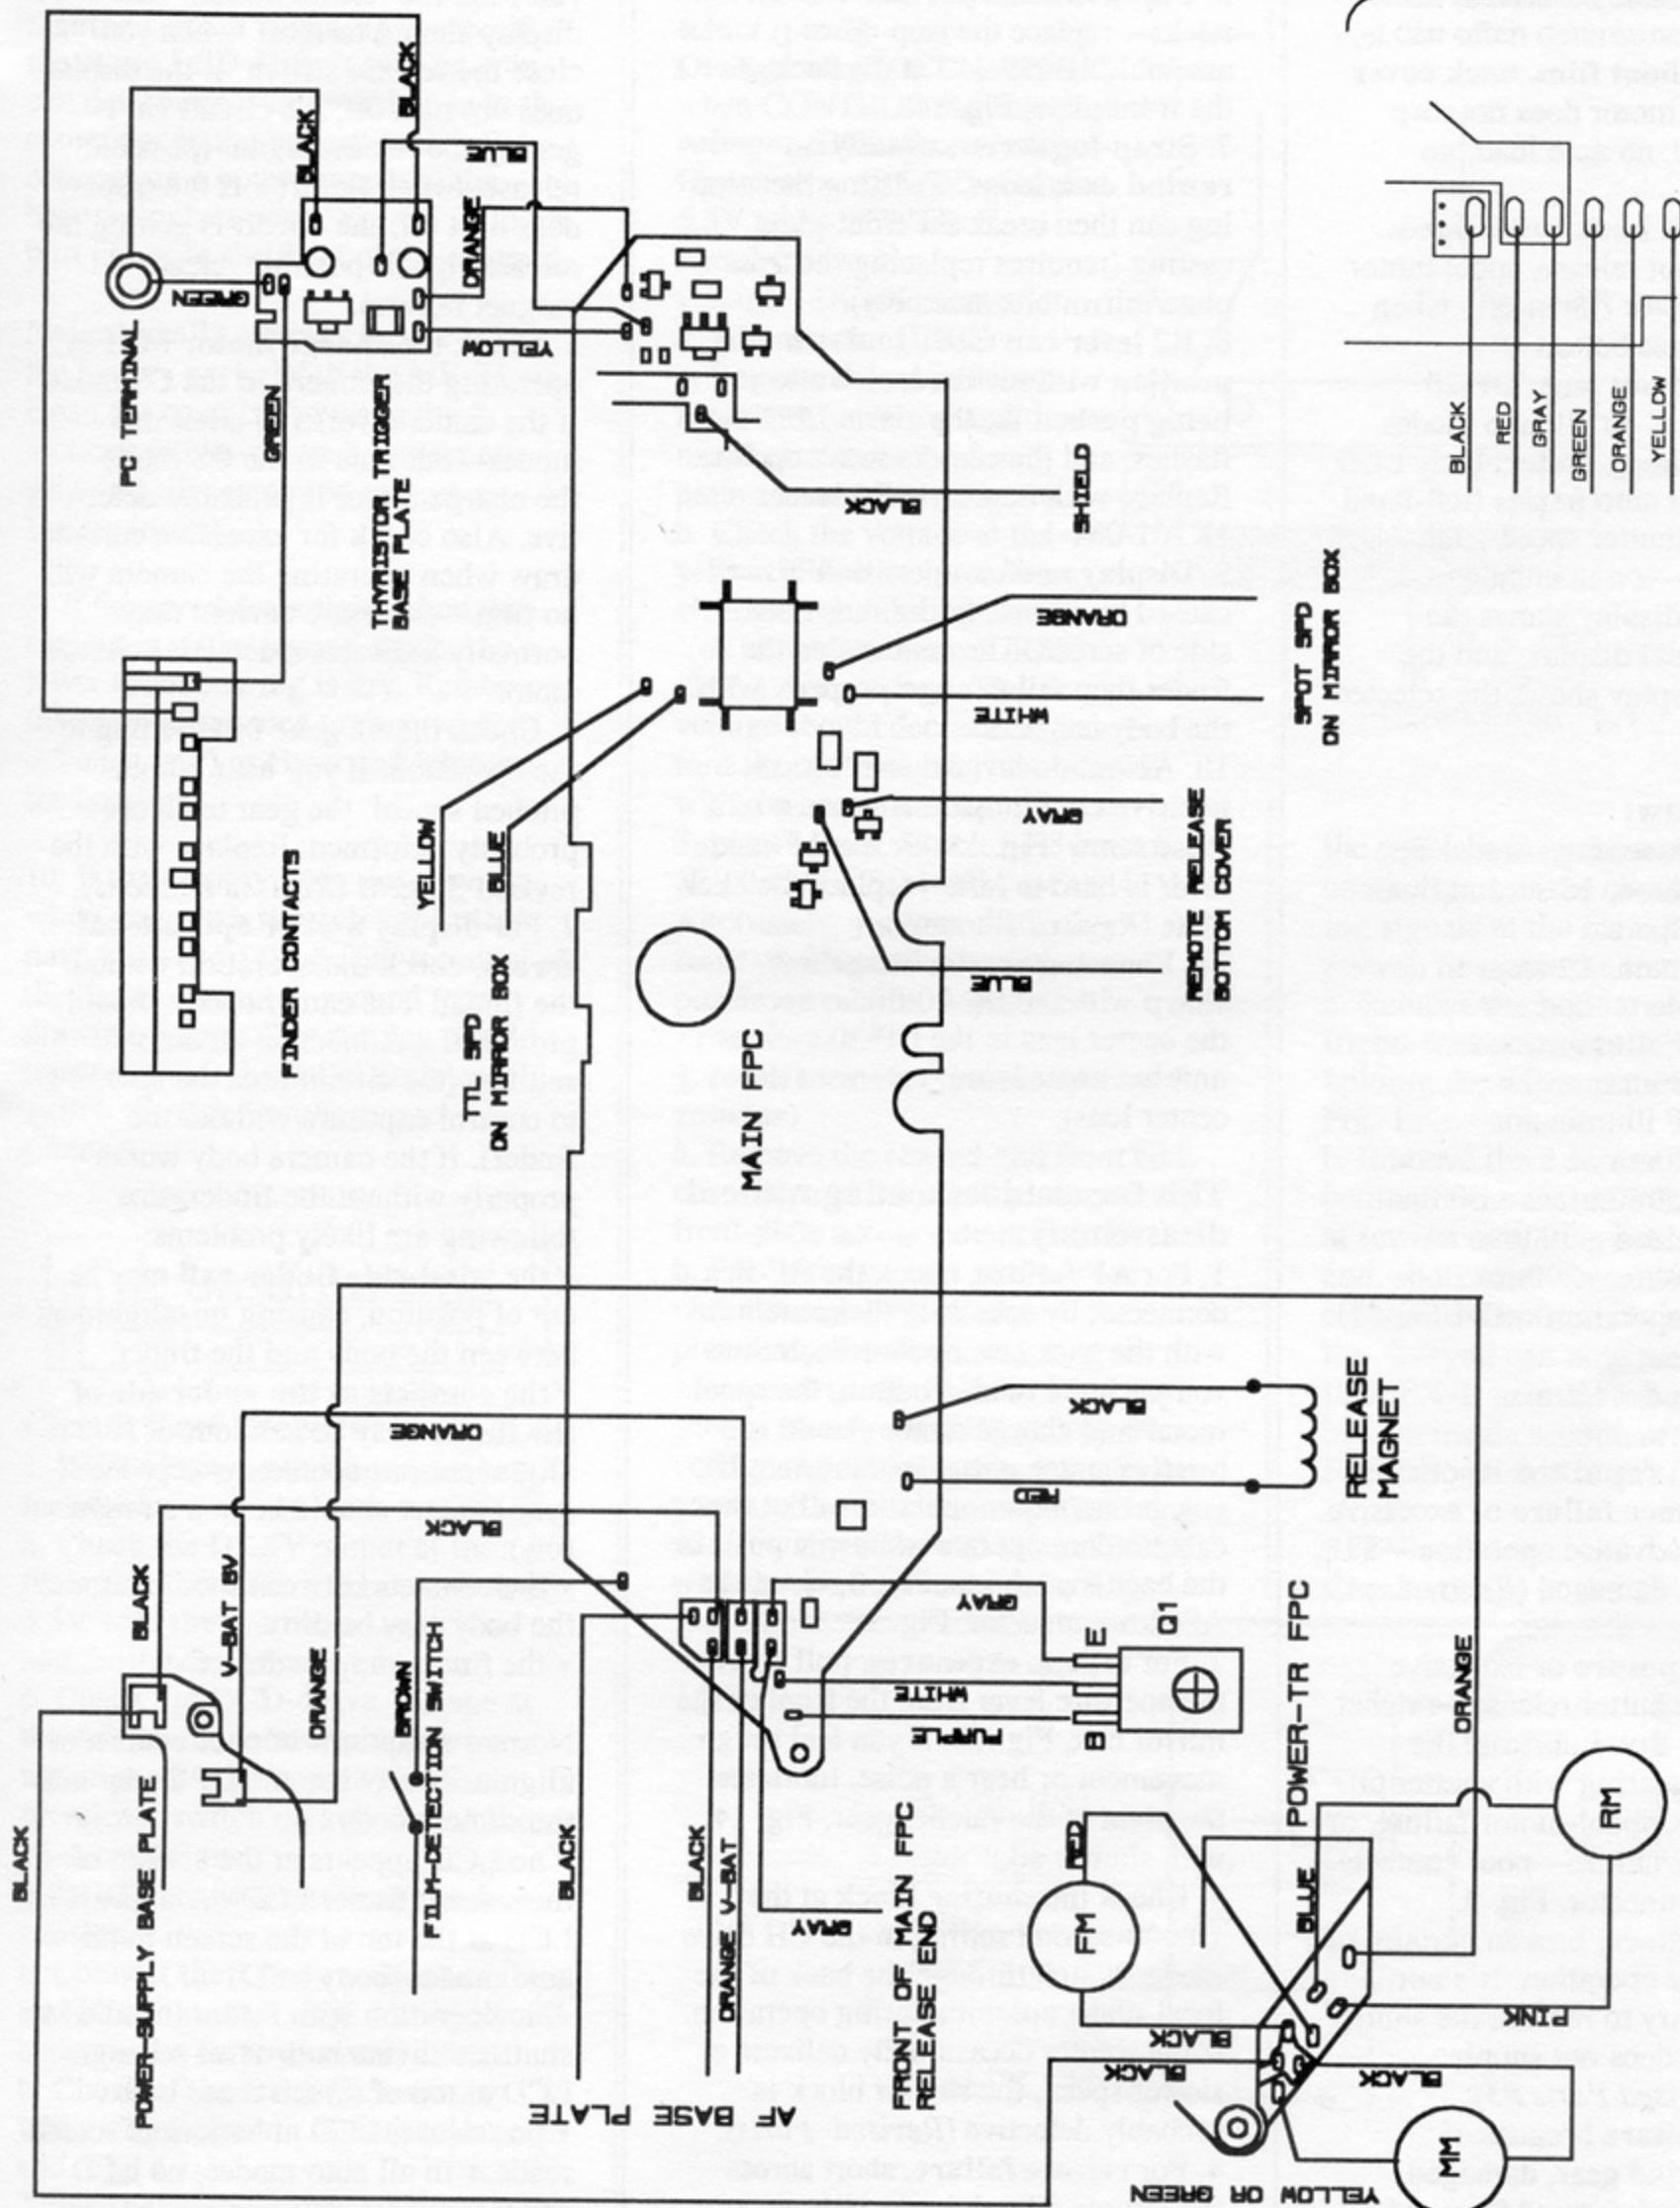

FIG. 48 WIRING, BOTTOM AND FRONT RELEASE SIDE (INSET) OF MAIN FPC
5. Thyristor trigger base plate. The old style, Fig. 45, has transistor Q38 and resistor R99. The new-style main FPC has Q38 and R99 mounted on the flex. The revised thyristor trigger base plate, compatible with the new-style main FPC, does not have Q38 and R99, Fig. 48.